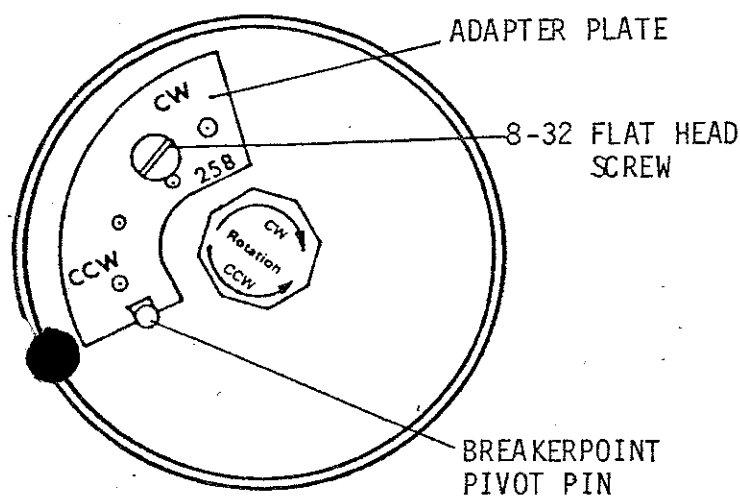

FIGURE 1
- () 2. Install the adapter plate as shown in figure 1. Use the 8-32 flat head screw provided and tighten securely.